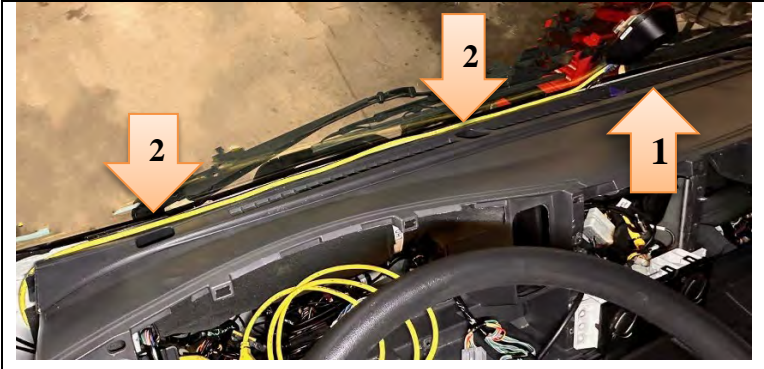

Figure 13
14. Inspect the cable in the three (3) areas; two (2) nearest the IP mounting bolt locations and one (1) where the camera cable passes between the IP and the windshield directly below the camera. (See Figure 13.)